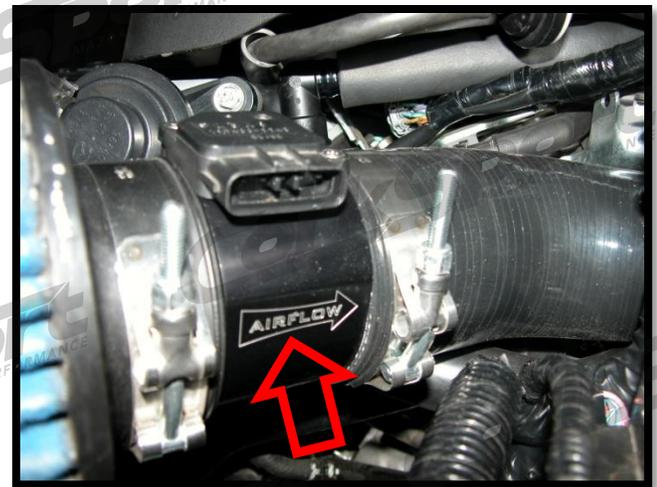

Figure 5c
- f) **Install MAF using the 83-91 T-bolt clamp into the CS silicone elbow** (**Figure 5c**). Pay close attention to the AIRFLOW arrow on the side of the MAF housing. It should point towards the silicone elbow.